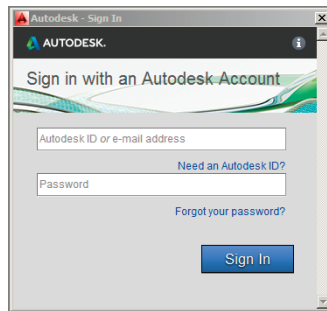

FIGURE 1.2 Sign in or create an Autodesk ID
2. Sign in with an Autodesk ID or email address and password. If you don't already have an Autodesk ID, click the hyperlinked text reading "Need an Autodesk ID?" and create one online (see Figure 1.2).